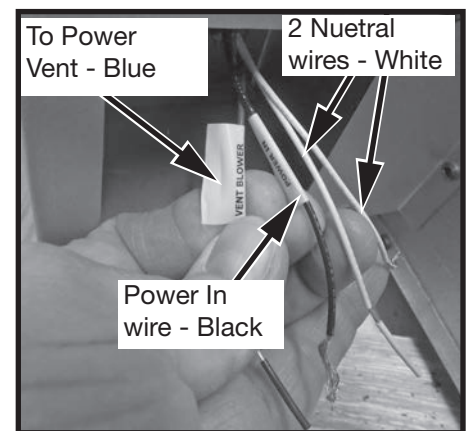
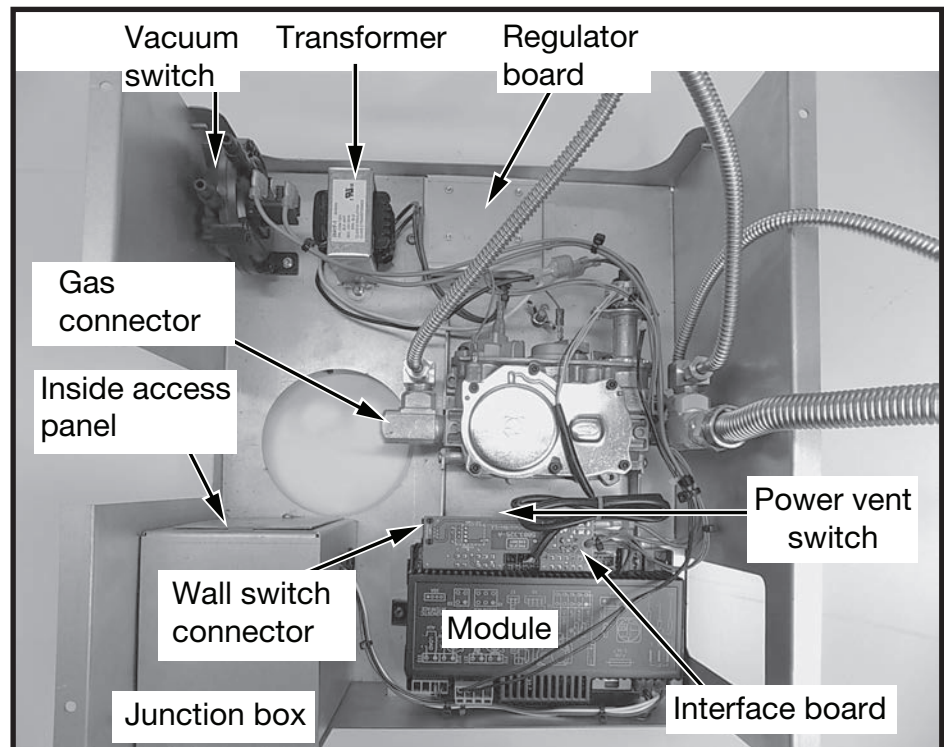

Figure 21: Junction box wiring.
Figure 22: Valve assembly components.
4. Connect 110 V. AC electrical supply to the wires installed inside the junction box (Figure 21). The fireplace is rated at 110 volts, 60Hz, 0.25A. The optional power vent kit is rated at 115 volts, 60Hz, 1.8A.
The electrical wires can be accessed from both inside and outside the junction box by removing one of the two small access panels (Figure 21) & (Figure 22).
5. Connect the gas supply to the valve (Figure 22).
6. Attach one end of the wall switch control cable to the wall control. (not shown), and the other end to the interface board (Figure 22).
The NV / PV (Natural Vent / Power Vent) switch (Figure 24) on the interface board (Figure 22) is set according to which type of evacuating vent system is present. If the fireplace is vented without the assistance of a power vent, the switch should be set to “NV”. If using a power vent, “PV” should be selected.